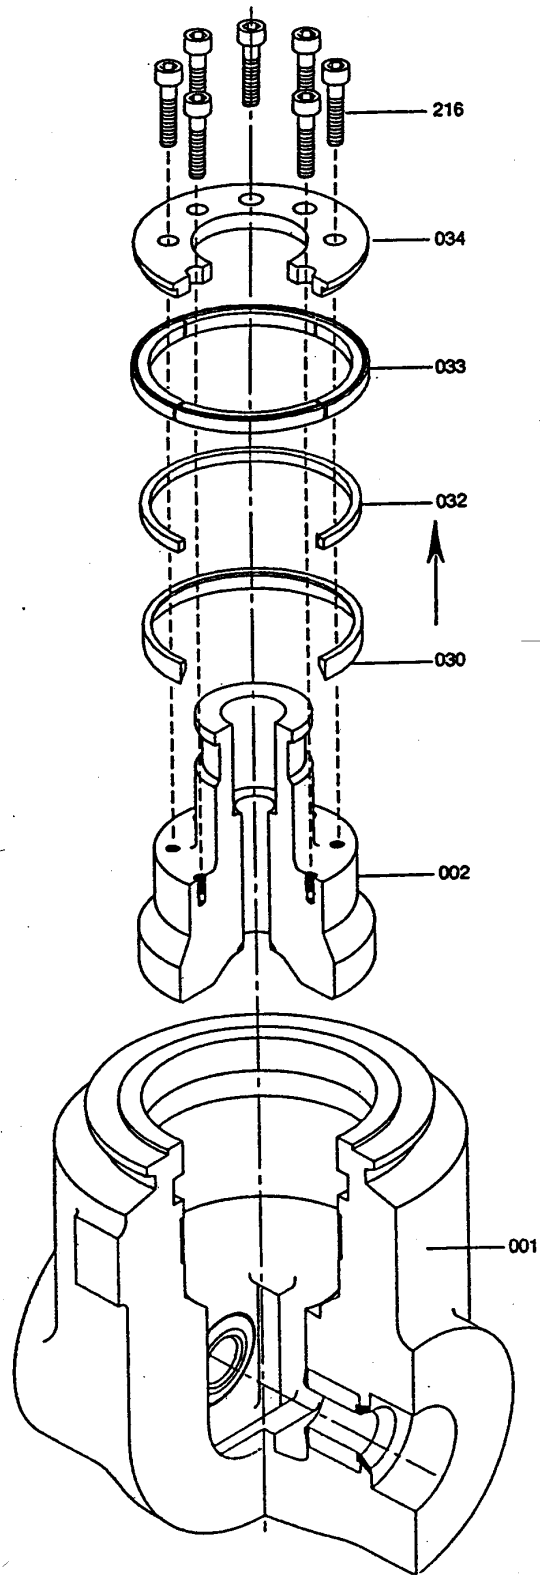

Figure 16
**20** 6.3.3 The bonnet is held in the raised position by capscrews (216) that draw it up against a bonnet retainer (034). To disassemble, remove the capscrews and then lift of the bonnet retainer (Fig. 16).